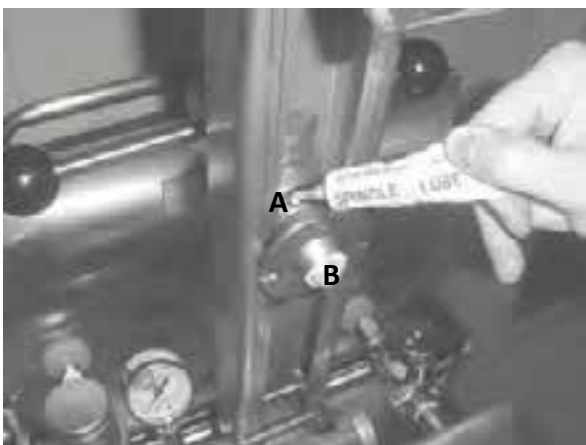

Figure 1.
2. Use spindle lube (#12124) to lubricate the threads of the spindle and the thrust ball as indicated in figure 1.